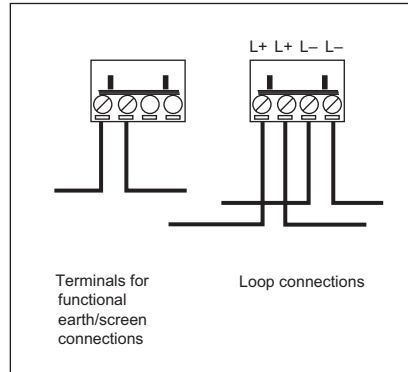

Fig 2 Terminal block connections
2. Run the cables from the loop into the backbox and connect them to the terminal blocks as shown in **Fig 2**. Ensure that functional earth/screen continuity is maintained. Screens should be connected to the yellow terminal block marked 1-4 on the black PCB cover.
5. Unlock the small front cover by inserting the forked key and pushing it home. Pull the cover down and towards you and remove the deformable element. Connect the terminal blocks as shown in **Fig. 2**, secure the call point to the backbox and refit the deformable element as required. Finally, replace the front cover in the reverse order in which it was removed and push it up until it locks.